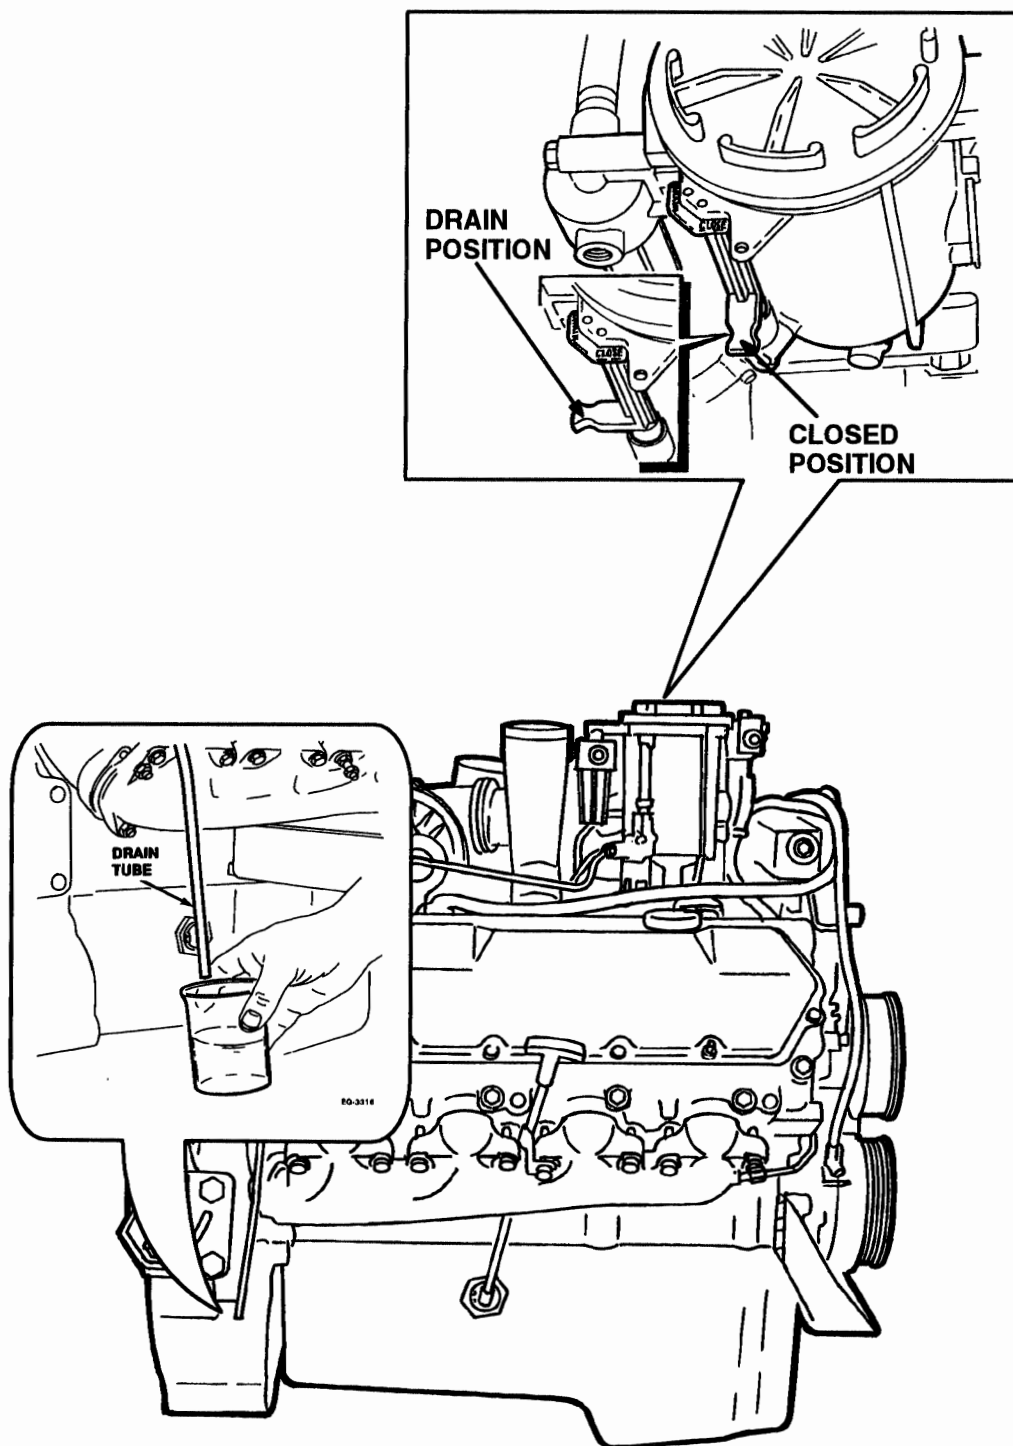

Figure 2.3-2. – Fuel Drain
1. Route a hose from the fuel drain tube (**Figure 2.3-2.**) to a clear container and open the drain.